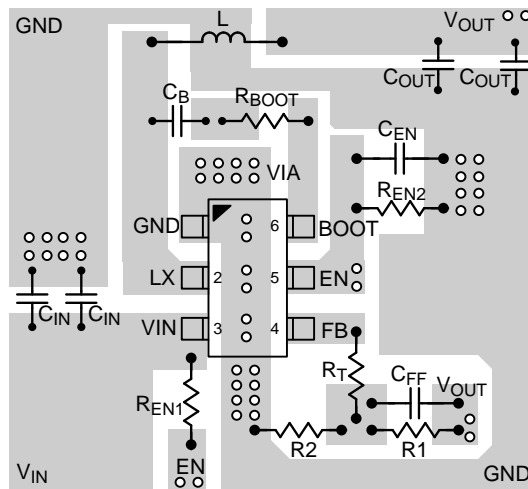

Figure 9. PCB Layout Guide for TSOT-23-6 package
- ▶ An example of RT6214A/B PCB layout guide is shown in Figure 9 and Figure 10 for references.